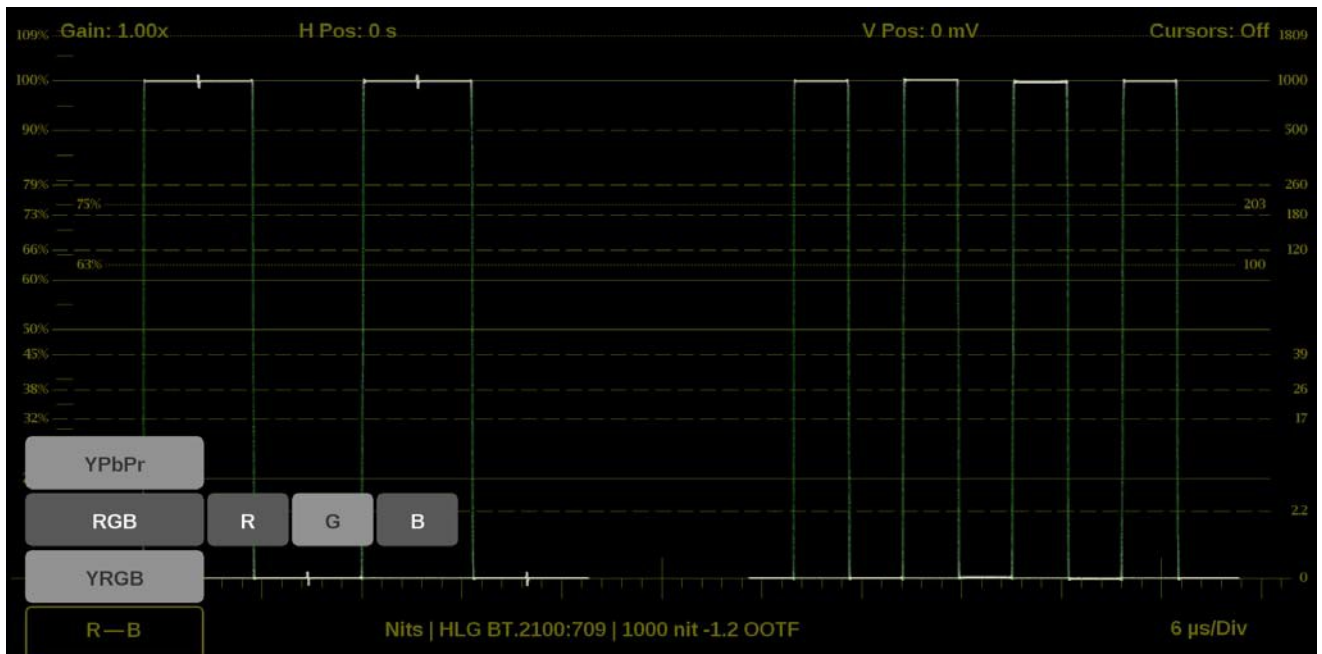

Figure 92: Waveform on-screen tools – Display Mode
1. Select the button in the bottom left corner of the application to expand the available display options. (See Figure 92.)